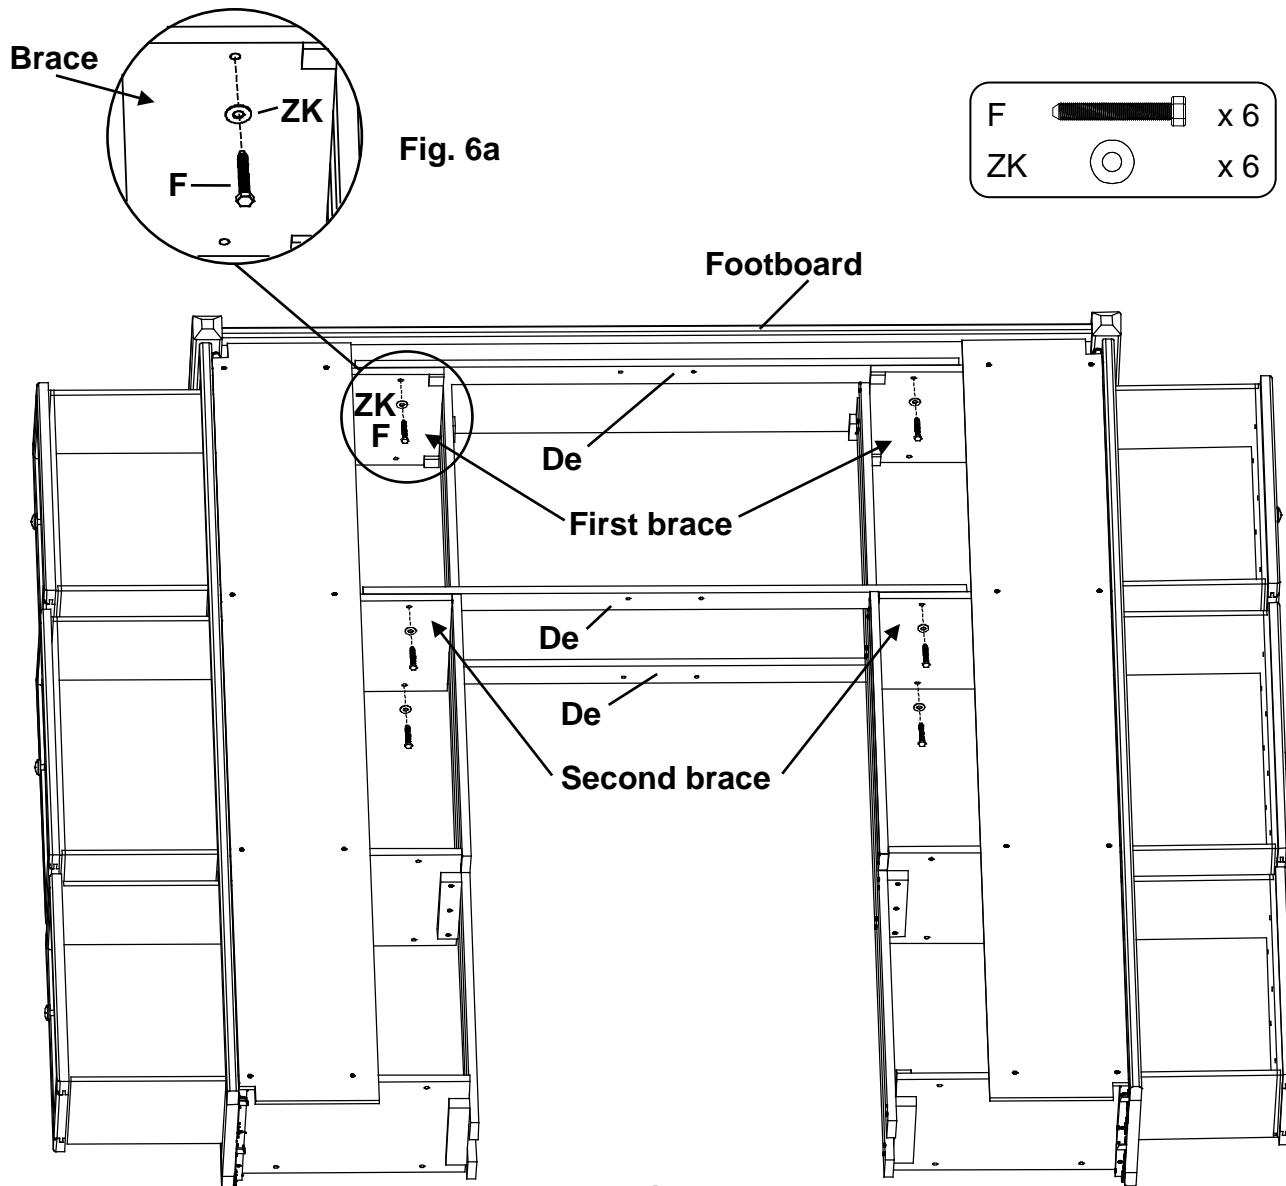

Fig. 6
Place a Trestle with T-Nuts (De) on the outside surface of the second lower brace so that the T-Nuts (ZU) sit near the bottom. Line up the bottom edges of the trestle and braces so they are nearly flush. Insert two 1/4" x 1-3/4" Hex Bolts (F) and Washers (ZK) and tighten. See Figures 6 and 6a.